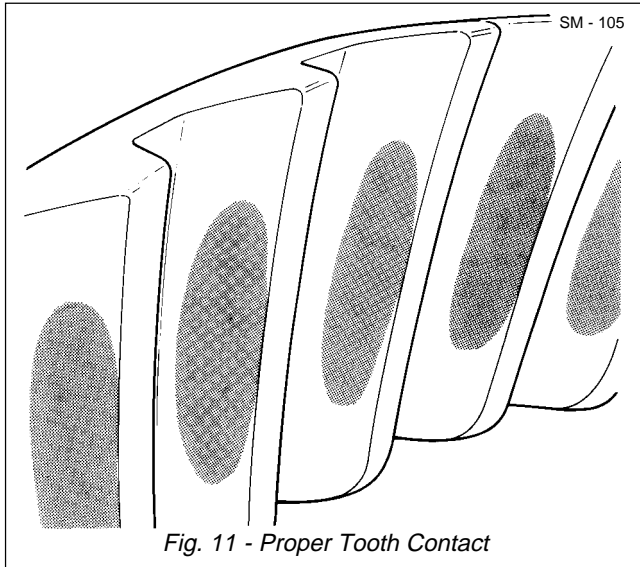

Fig. 11 - Proper Tooth Contact
3. Gear tooth patterns can be interpreted by referring to Figs. 11 thru 16.
- a. If a contact pattern similar to that shown in Fig. 11 is obtained, the adjustment is correct.